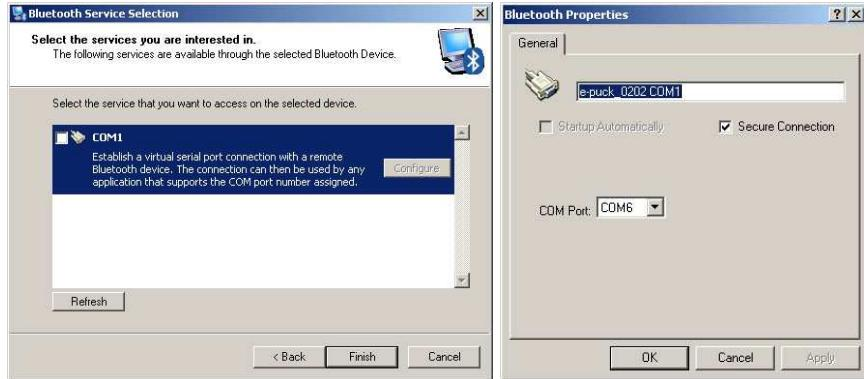

Figure 11: Left: Select the COM service of the e-puck robot. Right: Select the COM port where you want to have the e-puck robot.
5. As illustrated in figure 11 left, select the COM service of the e-puck robot.
6. As illustrated in figure 11 right, select the Windows COM port where you want to have your e-puck robot. In the example the choosen port is COM6. You will have to give this port to the program accessing to e-puck.